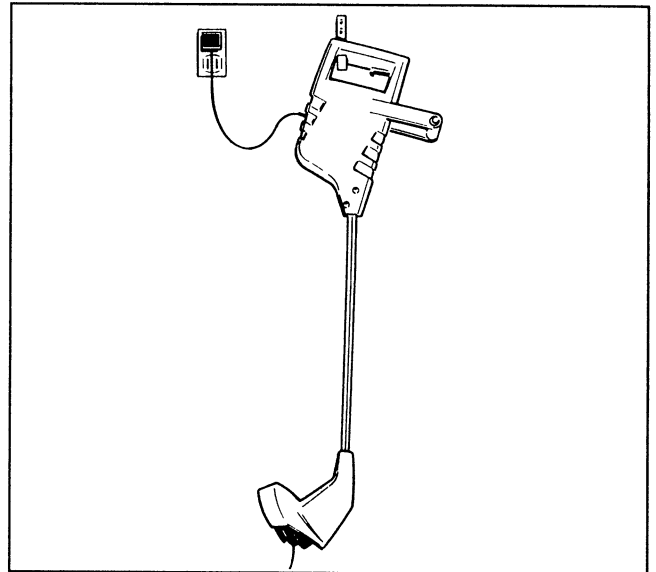
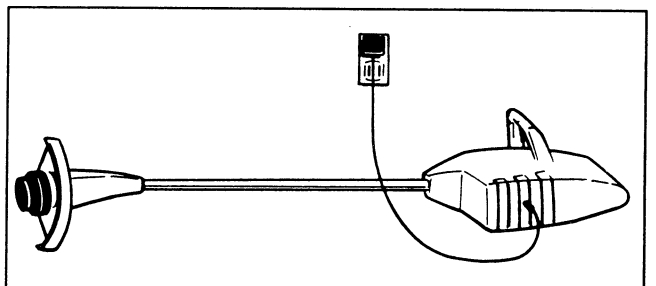

Figure 5
Figure 6
2. Hang trimmer upright from a solid hook (Fig. 5) or lay trimmer on its right side on a flat, solid surface away from combustible liquids, gases or materials. Position trimmer on side as shown in Figure 6.